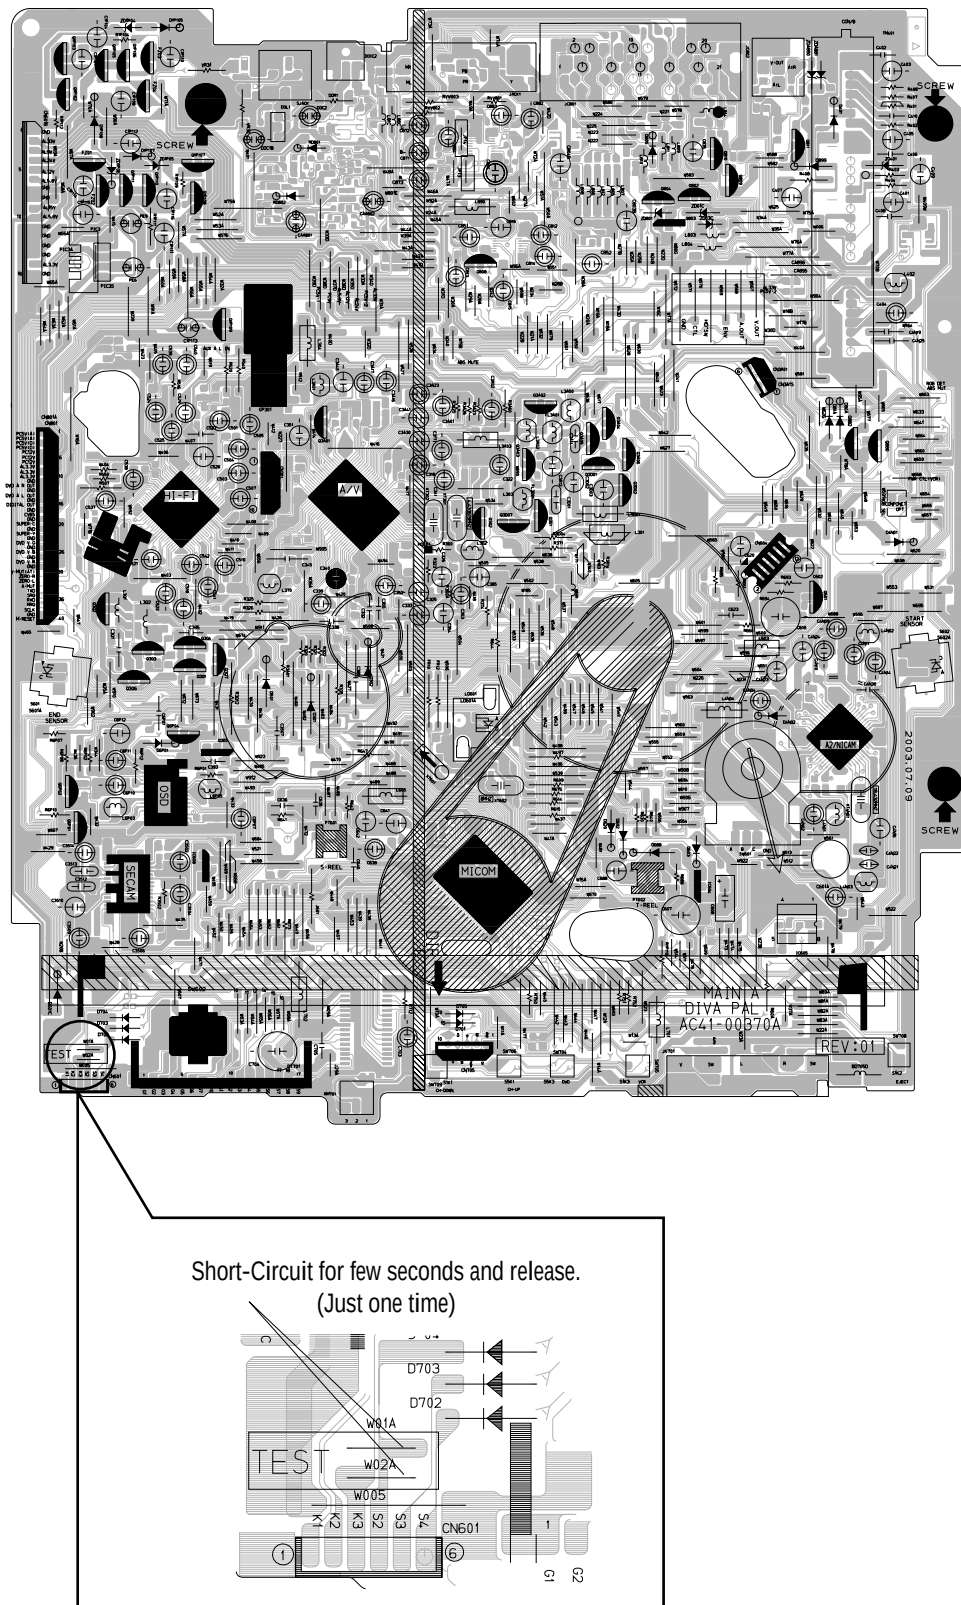

Fig. 6-2 VCR Main PCB (Top View)
- 2) Intermittently short-circuit the two Test Points on VCR Main PCB while setting the adjustment mode. (See Fig. 6-2)
- 1) Intermittently short-circuit the two Test Points on VCR Main PCB. (See Fig. 6-2)
- 2) Intermittently short-circuit the two Test Points on VCR Main PCB . (See Fig. 6-2)